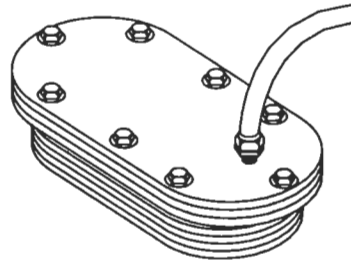

Figure 4. Oil Cooler Core Prepared for Pressure Test
1. Make a suitable plate and attach it to the flanged side of the oil cooler core. Use a gasket made from rubber to ensure a tight seal. Drill and tap the plate to permit an air hose fitting to be attached at the inlet side of the oil cooler core (Figure 4.)